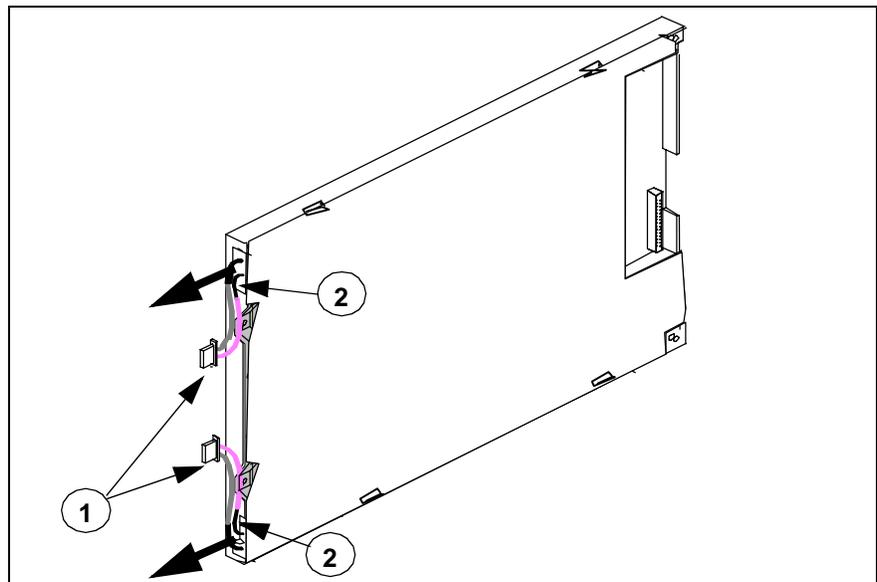

Figure 3-13 Display Screen Subassembly
- Backlight Lamps (see Figure 3-13 on page 54)
- 5) Unplug backlight connectors (① in Figure 3-13 on page 54) from front bezel PC board, and lift subassembly out of frame.
- 6) Using very small screwdriver, depress black nub on latch of each backlight lamp holder (located at ② in Figure 3-13) to release latch, and draw backlight lamps out of display screen subassembly in direction of heavy arrows in Figure 3-13.